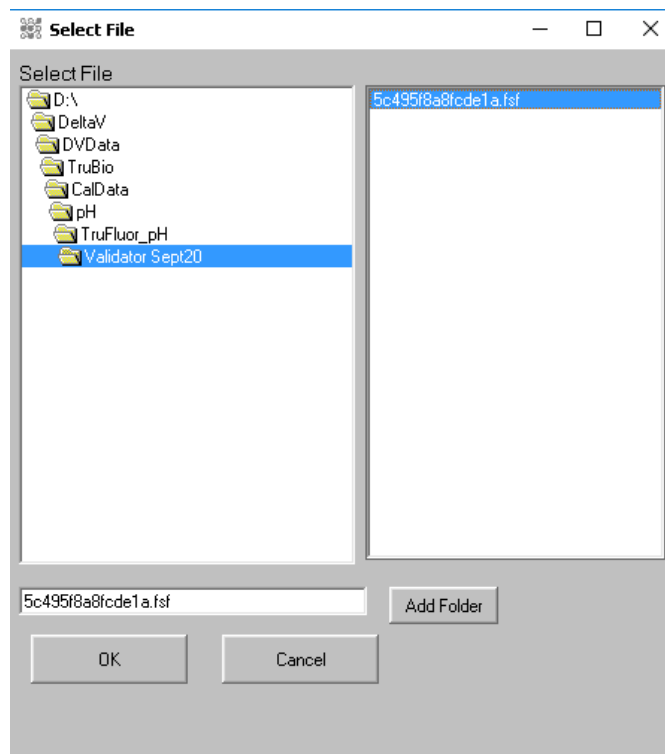
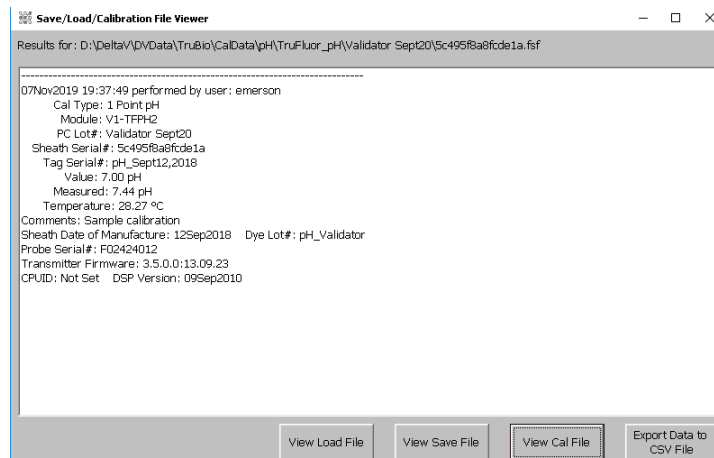

Figure 2.25. Selecting desired sensor file.
Figure 2.26. Save Load file results.
5. Select the desired file from the drop-down menu (Figure 2.25) to view the calibration data (Figure 2.26).